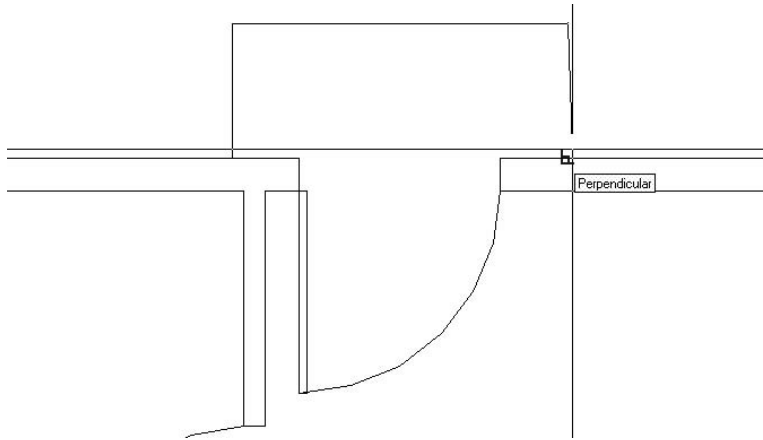

FIGURE 5.8: Completing the back step with the Perpendicular Osnap
5. Select Perpendicular Osnap from the Object Snap toolbar, and move the cursor to the outside wall line (see Figure 5.8). When the perpendicular icon appears on the wall line, click the mouse button. The right edge of the step is drawn, and the back step is complete. Press \downarrow to end the Line command.